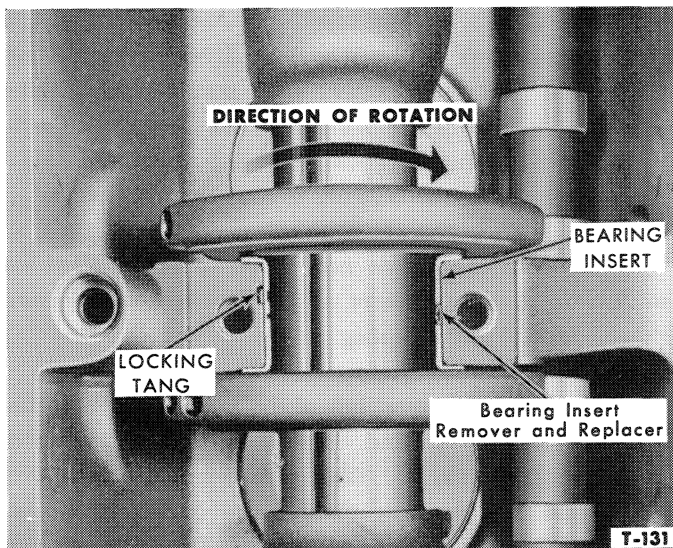

Figure 54—Removing Main Bearing Insert
2. Remove the two bolts that attach the main bearing cap to the cylinder block and remove the cap and bearing. Install a bearing insert remover in the oil passage of the crankshaft as shown in Figure 54. Turn the crankshaft counterclockwise slowly until the tool forces the bearing out of the cylinder block.